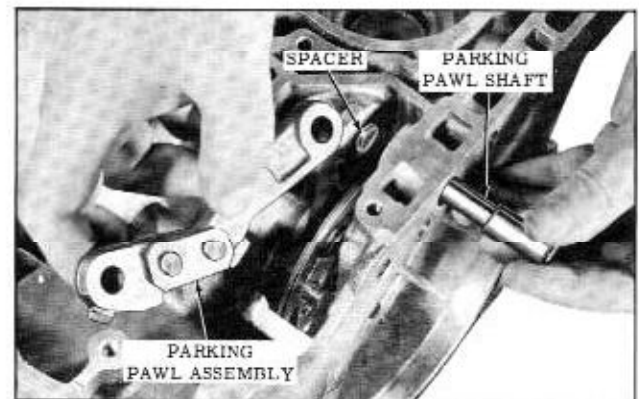

Fig. 3-39 Removing Parking Pawl
29. Remove the parking pawl assembly. (Fig. 3-39)